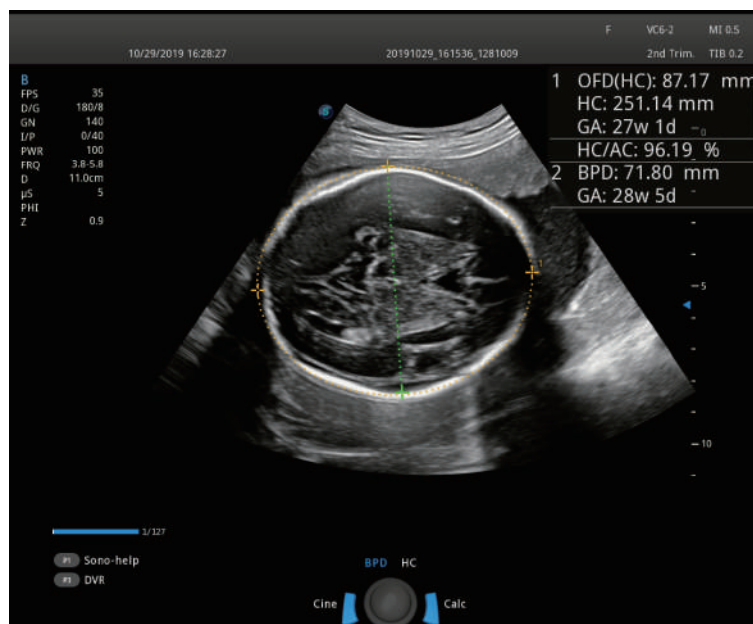

Figure 6-29 Image Display _ S-Fetus(meas.)
2. In real-time B mode, tap **S-Fetus(meas.)** on the touch screen to perform automatic measurement, and the measurement results are displayed in the result box on the basic screen, as shown in Figure 6-29.